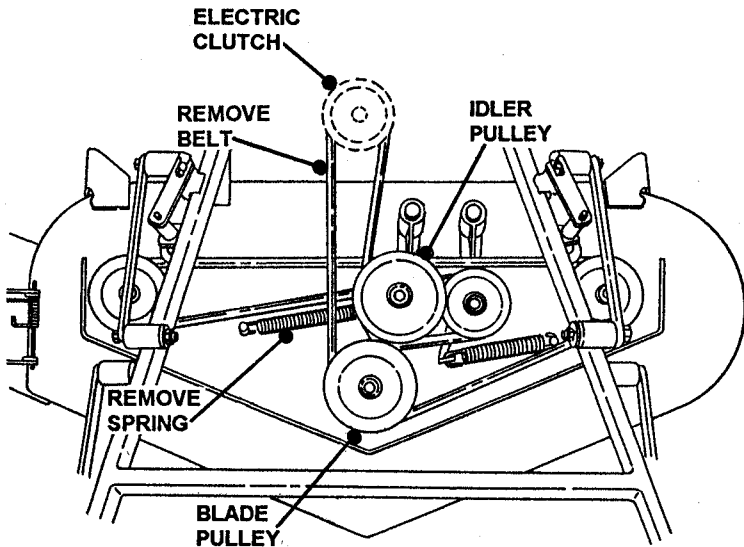

FIGURE 34
3. Remove Idler Spring and swing Idler away from belt. See Figure 34.
2. Route new Belt around center and right hand spindle pulleys. Refer to Figure 34.
4. Remove old belt from center and right hand spindle pulleys. Refer to Figure 34.